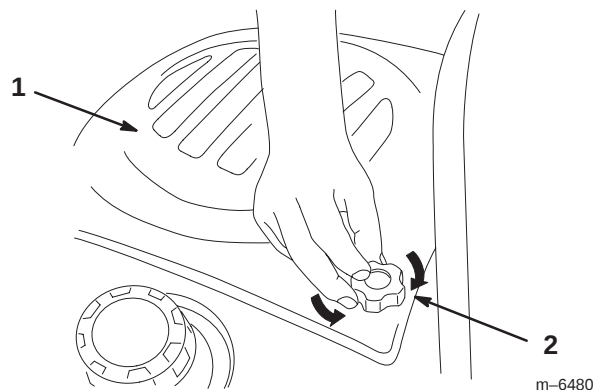

Figure 16
1. To remove the hood, loosen the knobs and then pull the hood back and up (Fig. 16).
3. Tighten the knobs (Fig. 16).